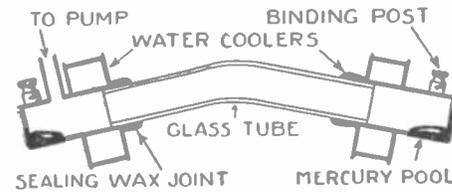
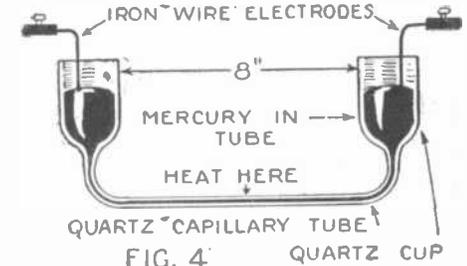

FIG. 3
FIG. 4
tions, as located on the plan through the glass. This is clearly shown in Fig. 3.
Another easy method of producing a current is shown in Fig. 3. A UV-199 vacuum tube is used. The spot where the end of the filament wire is welded to the lead-out wire should be heated with a small magnifying glass. The sun's rays should be concentrated upon this welded junction which consists of two different metals. A current can be seen to be produced when this junction or weld is heated, if an indicating instrument is connected with the filament terminals of the tube. You might have to search for a thin or weak spot in the silvering of the tube but practically every tube can be used for this little experiment as the silver coating is not very uniformly distributed.
Fig. 3 consists of a glass capillary tube with a double U bend. Dilute sulphuric acid is contained in a small vial as shown. Fig. 4 is the simplest of the four types, consisting of a single U tube of small bore tubing. Some thermometer tubes can be used in this and other types. In all types, the microscope or strong magnifying lens is placed at the termination of the mercury thread, at V, the small circles at these points representing the lens. In all instances, one electrode (E) makes connection with one side or end of the mercury thread and the other electrode (E) makes contact with the dilute (1:5) sulphuric acid solution, this acid thread in the tube meeting the other end of the mercury thread. A nickel or even copper wire can be used as electrode for the acid for a few hours' operation of the instrument, but a small platinum wire is best as it will not dissolve in the acid.
Leaving the glass mercury lamps, we will turn now to two types built of quartz, which are designed so as to be easily constructible. In Fig. 4 is illustrated the simplest and most efficient lamp of the outfit, but it requires the services of a glass blower equipped with oxy-acetylene flame for its construction, which is easy to accomplish, however. It is included because of its striking ease of manipulation, and its efficiency.
The last step is to mount the apparatus on its base. The simplest way is to cut a baseboard of wood, $\frac{3}{4}$ x $4\frac{1}{4}$ x $7\frac{1}{2}$ inches. Place the transformer on this so that the long sides of the core rest on two wooden supports (WW), as shown in Fig. 3. These are $\frac{1}{2}$ inch square by 4 inches long. Two wooden clamp pieces press down over the core sides and are held in place by four
For making connections, near one end of the base (on the primary side), a strip of hard rubber (R, Fig. 3) is fastened, having two binding posts attached. The primary ends are connected to the latter. At the other end, four Faehnstock clips are screwed into the base and these form the secondary terminals. In this set the ends of the coil are connected to the first and fourth clips, while the two taps are joined to the two inner ones. Furthermore, the lead taken off at the third layer must be connected to the terminal "C" (Fig. 4).
A top view of the complete instrument, with top clamp pieces removed for clearness, is shown in Fig. 4. All the wooden pieces should be shellacked or varnished before being joined. Some details have been omitted which the amateur can fill in to suit his convenience.